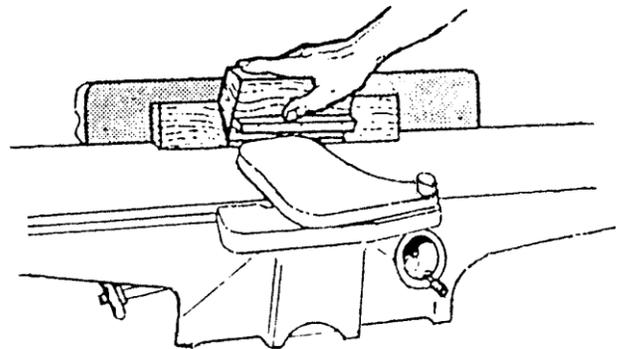

Fig. 29
11. Keep thumb above the ledge on hold down block (Fig. 29).